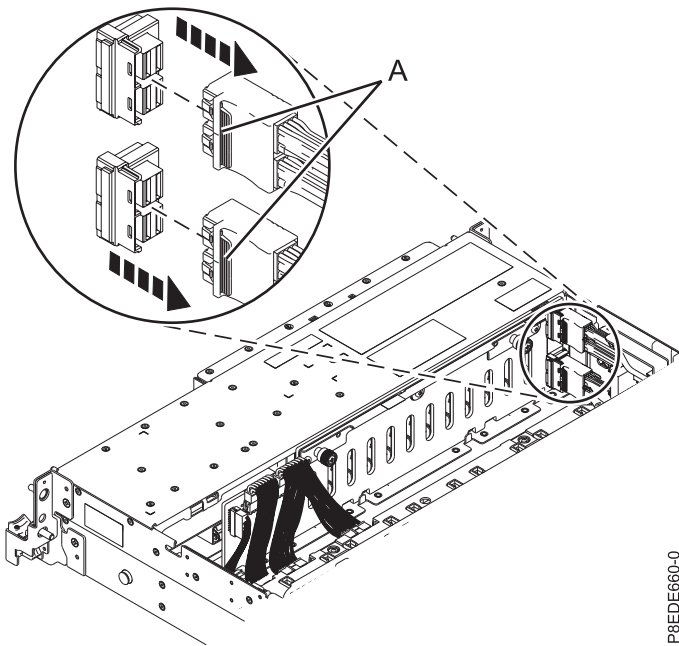

Figure 43. Disconnecting the front SAS cables
3. Label the front SAS cables, paying attention to the connectors each cable attaches to on the disk drive backplane and the SAS RAID internal adapter. Disconnect the front SAS cables from the disk drive backplane by pressing the latch (A) and unplugging the cable. For details, see Figure 43.